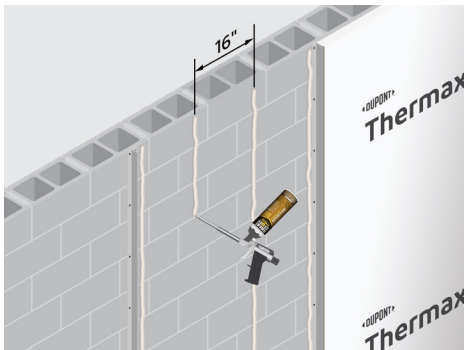

Figure 7
4. Ensure surface is clean and dry before applying **Great Stuff Pro™ Construction Adhesive**, or other chemically-compatible construction grade adhesive, to the wall every 16" between PVC base strips (Figure 7). Follow manufacturer's instructions regarding suitable application temperatures.